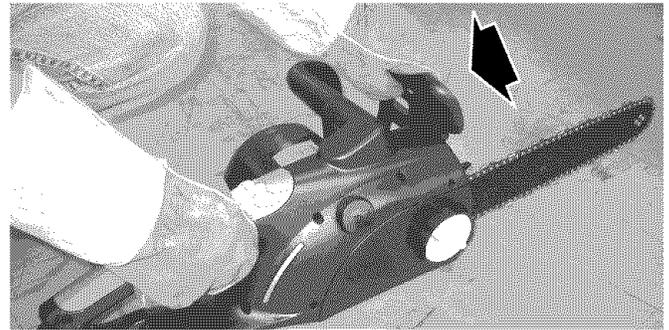

Fig. 26
The Chain Brake® is disengaged (chain can move) when the brake is pulled back and locked. This is the normal running position (Fig. 26).
- A. Make sure the Chain Brake® is disengaged (Fig. 26).